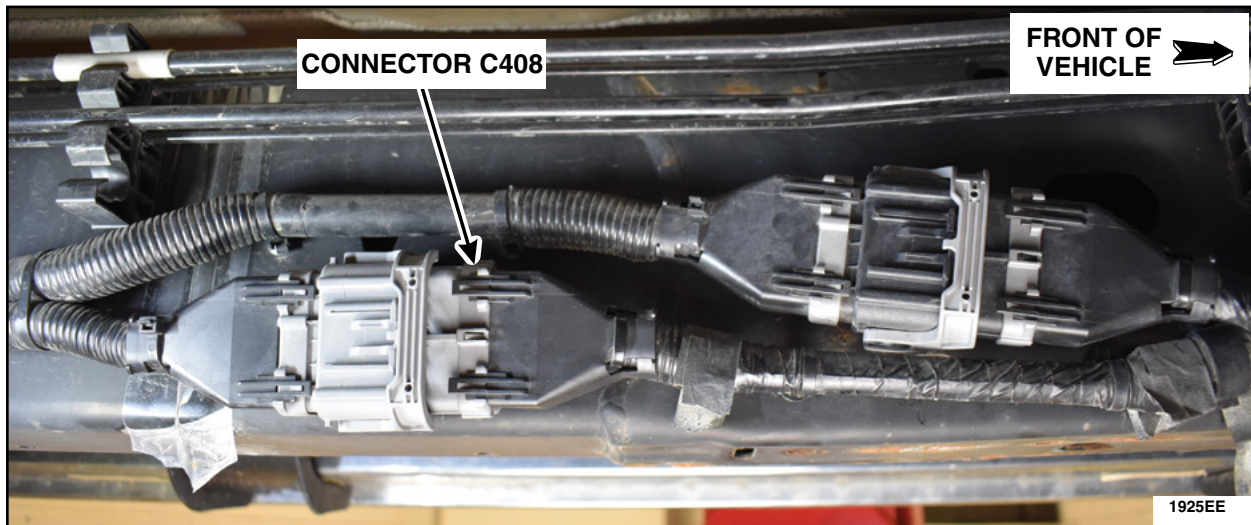

FIGURE 46
48. Reconnect connector C408. See Figure 46.